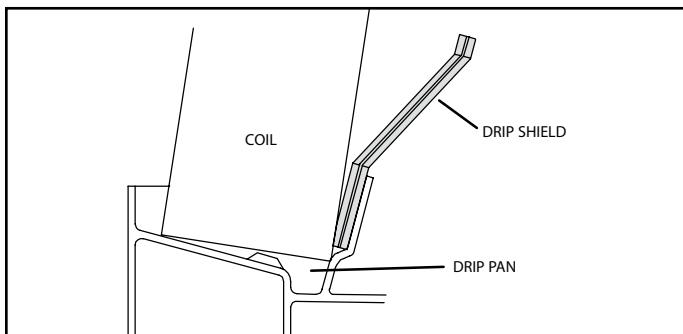

Figure 8. Downflow Drip Shields
5. From the underside of the coil, install the downflow drip shield firmly in place as illustrated in Figure 8.